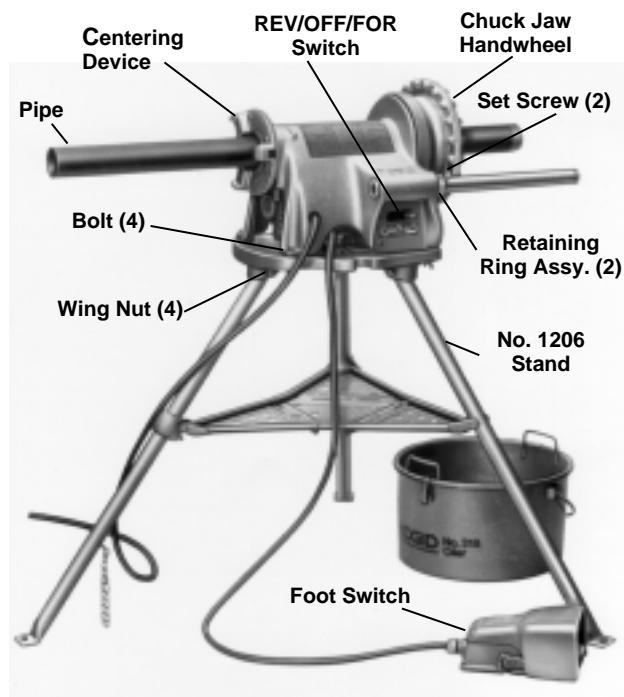

Figure 3 – Power Drive with Pipe Installed, Stand, and No. 318 Oiler.
5. Place foot on **foot switch** (Figure 3) to operate machine.